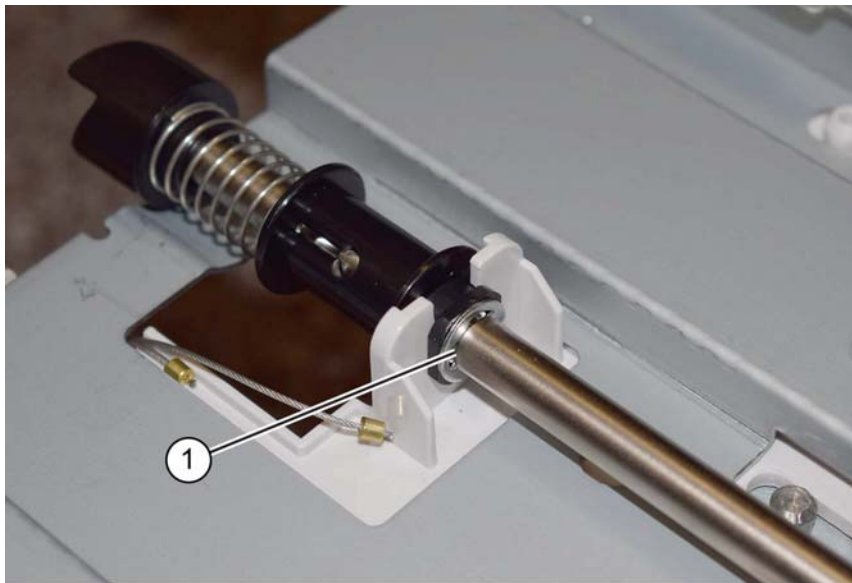

Figure 3 Rear E-clip
7. Remove the E-clip (1), Figure 3: